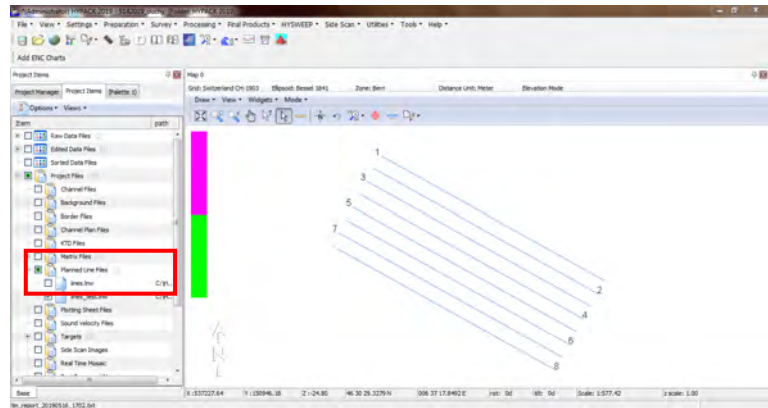

Figure 46: Lines with different directions and "Planned Lines Files" folder
- To reverse their direction (Figure 46): Open the line Editor -> File -> Open -> select the lines that should be reversed (CTRL+left click) -> right click -> Reverse Order
- Save again the edited lines (the file will be stored on the "Planned Line Files" folder inside the "Project Files" list; Figure 46)